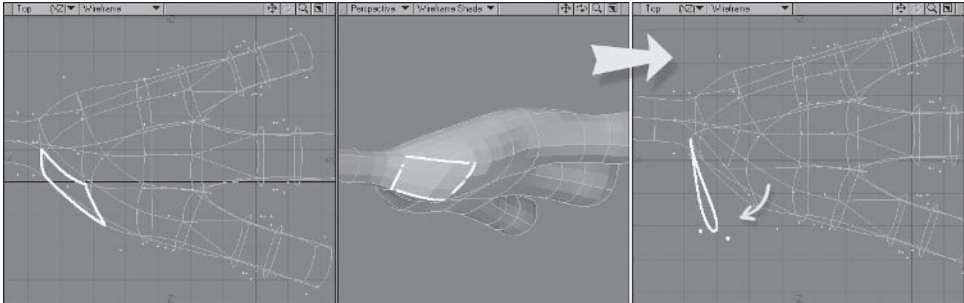

Figure 3.2-37. Here you can see the results of some shaping that I did in the previous step.
16. Now we're going to create the base of the thumb. Select the polygon shown in Figure 3.2-37. **Cut** and **Paste** the polygon, then select it again. Move the right two points away from the hand. **Deselect** the polygon and **Merge**.